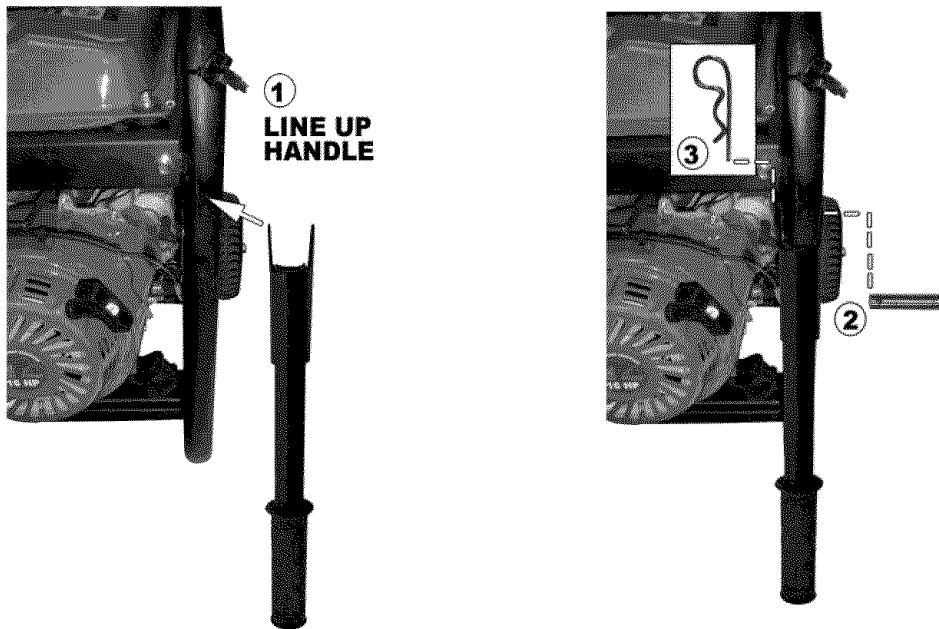

Figure 1- Attaching handle
1. Take one handle and line up the holes in the handle bracket with the holes on the generator frame as shown in figure 1.
3. Using a funnel, add the appropriate amount of oil, as found in figure 1, into the crankcase. The crankcase is full when the oil level has reached the lower lip of the opening where you have just poured the oil into (see figure 5).